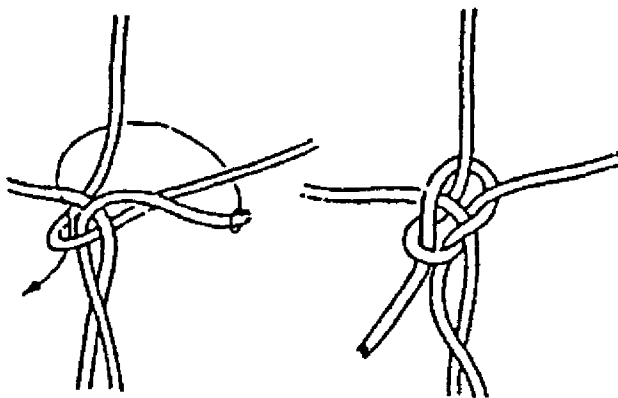

Fig. 3-52-5
- (e) Using the loop at your chest, tie a square knot by passing the end of the rope through it as shown in the diagram. (Fig. 3-52-5)